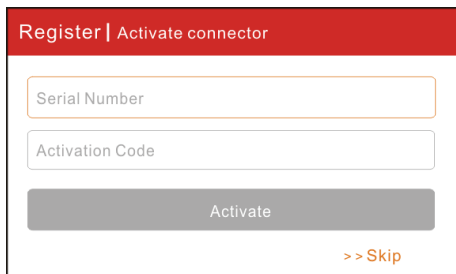

Fig. 4-4
B. Activate the VCI device: In Fig. 4-4, input the Serial Number and Activation Code, which can be found in the password envelope.